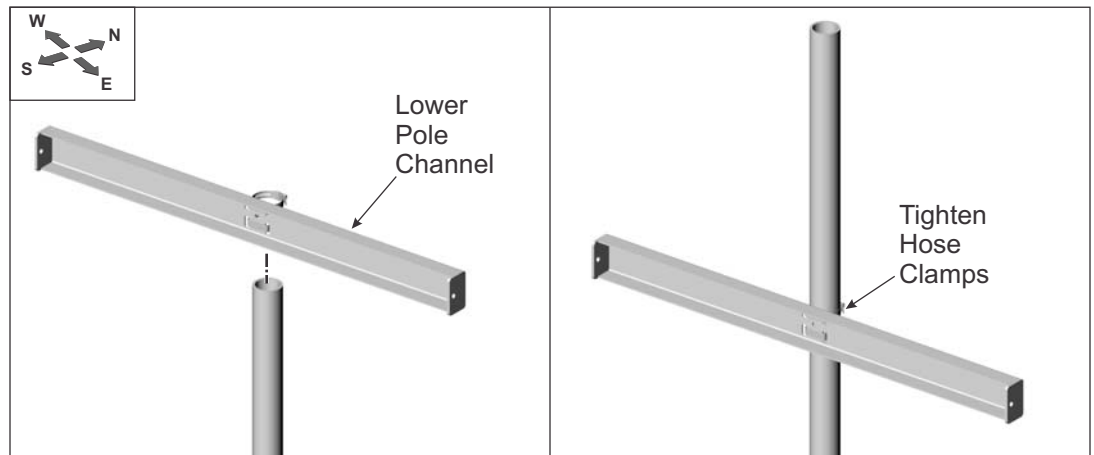

Figure 1-3: Installing Lower Pole Channel
- C. Rotate the Pole Channel so it is facing south. (See Figure 1-3)